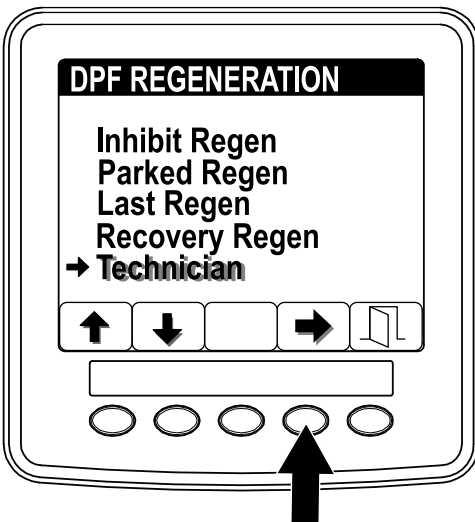

Figure 38
1. Access the DPF Regeneration menu, and press buttons 1 or 2 to scroll down to the TECHNICIAN option (Figure 38).
2. Press the button 4 to select the Technician entry (Figure 38)